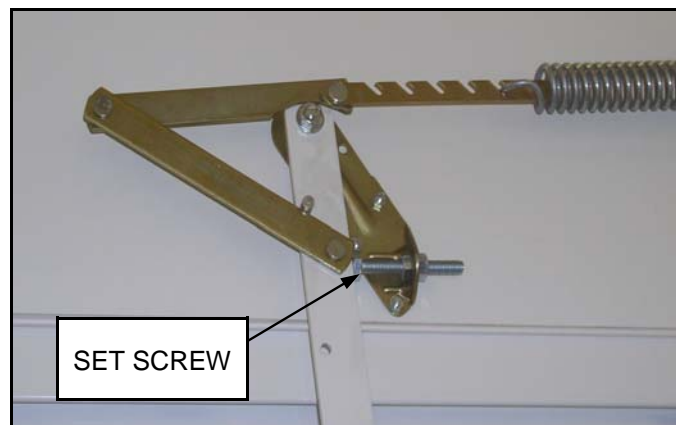

Figure 11
Note: If cut line is within 1" of bottom of tread, make cut just ABOVE tread. The set screw as shown in Figure 11 will be adjusted to correct this.
2. If there are gaps or if the stair does not reach the ground, turn the set screw (Figure 11) clockwise to lower stair, or counter-clockwise to raise it.